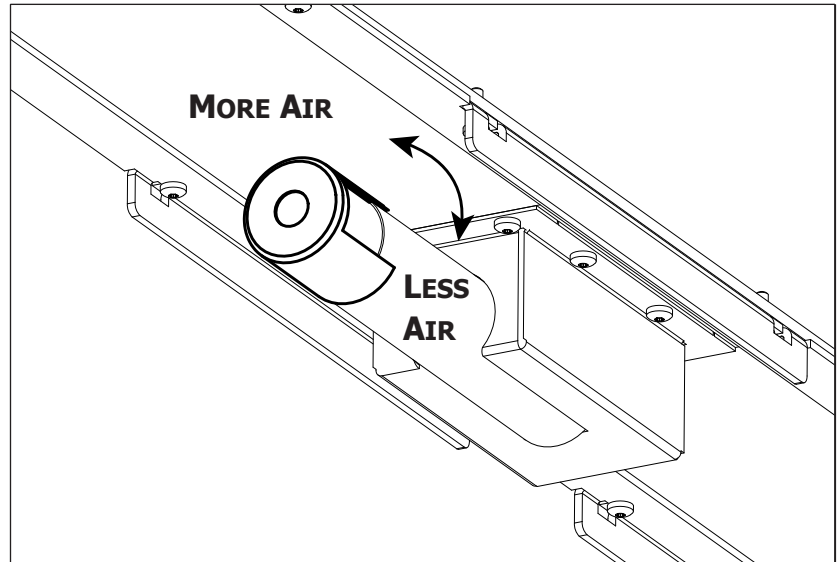

Figure 10: Shutter Cap Adjustment
2. On the bottom of the burner (where the burner connects to the burner orifice), there is a single Phillips head screw that should be loosened. This will allow for adjustment of the burner cap (see Figure 10).